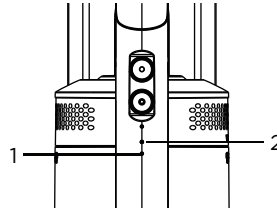

Fig. 4
3. The light indicator shows the status (Fig 4):
1. Light indicator 1(Fig 4) will flash when the battery is running low and needs to be recharged, If recharge is not commenced, the vacuum will power off.